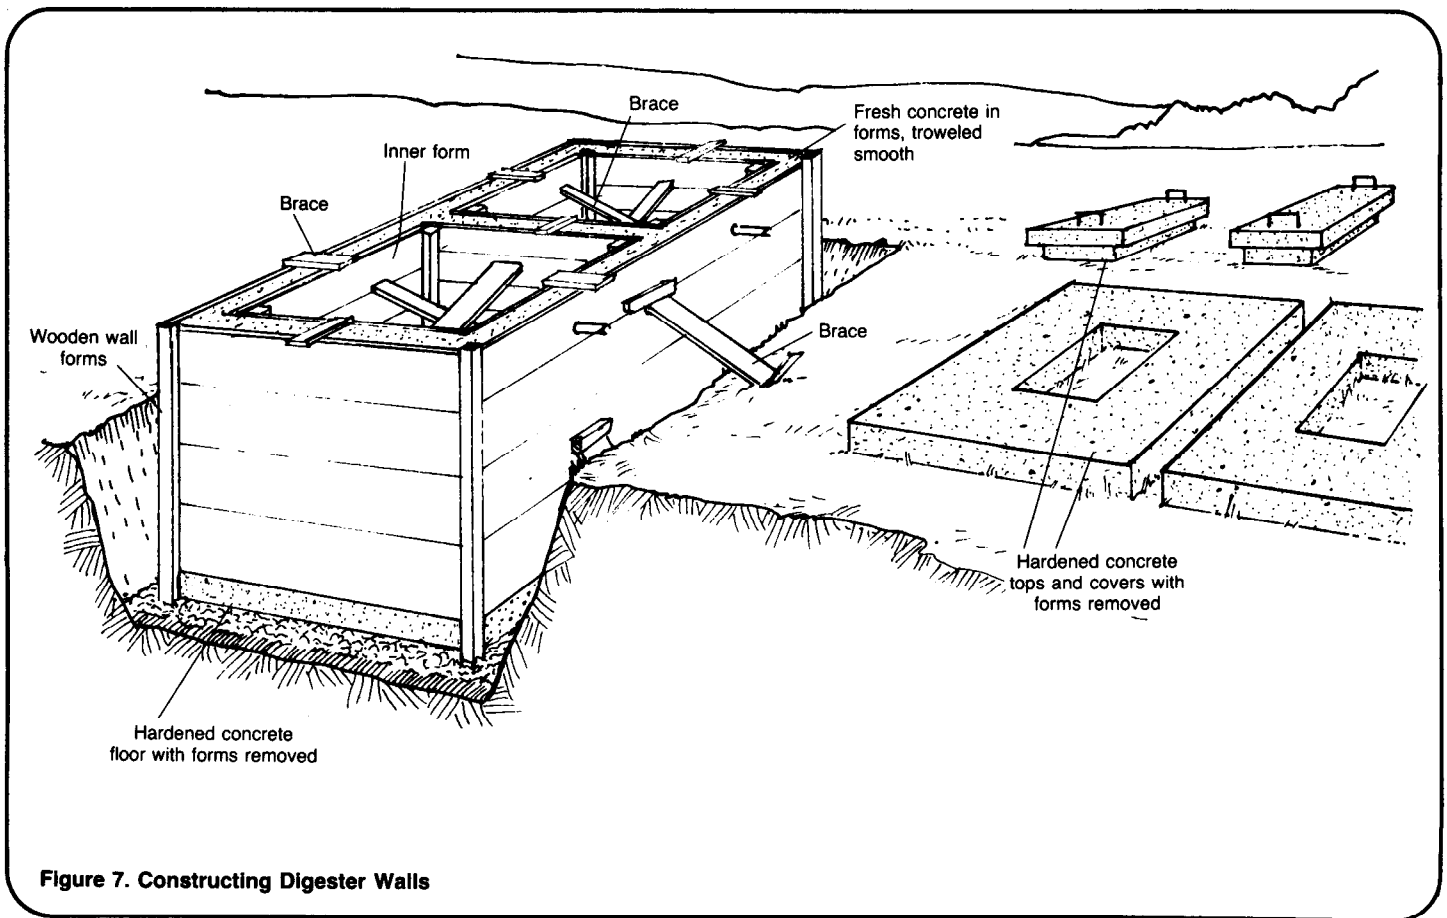

Figure 7. Constructing Digester Walls
9. When the concrete floor has set up, remove the cover material and the forms. Build the wall forms in place. Set a section of gas pipe near the top of one wall in each digester. Position reinforcing material in the wall forms. Brace the wall forms to prevent possible collapse when the concrete is poured. See Figure 7.
10. Mix and pour concrete into the wall forms. Be certain that concrete fills all voids in the forms. Use a steel rod or stout stick to work concrete between reinforcing material and the forms. Trowel the tops of the walls smooth and cover with wet straw or burlap. Keep moist for five to seven days. See Figure 7.